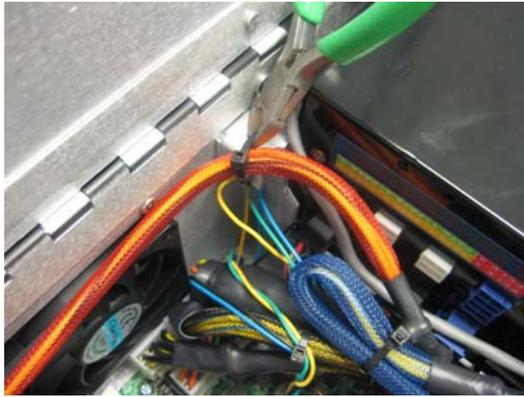

Figure 3-9
- 3) Cut any cable ties that are holding the display power and data cables in place as shown in figures 3-9 through 3-11